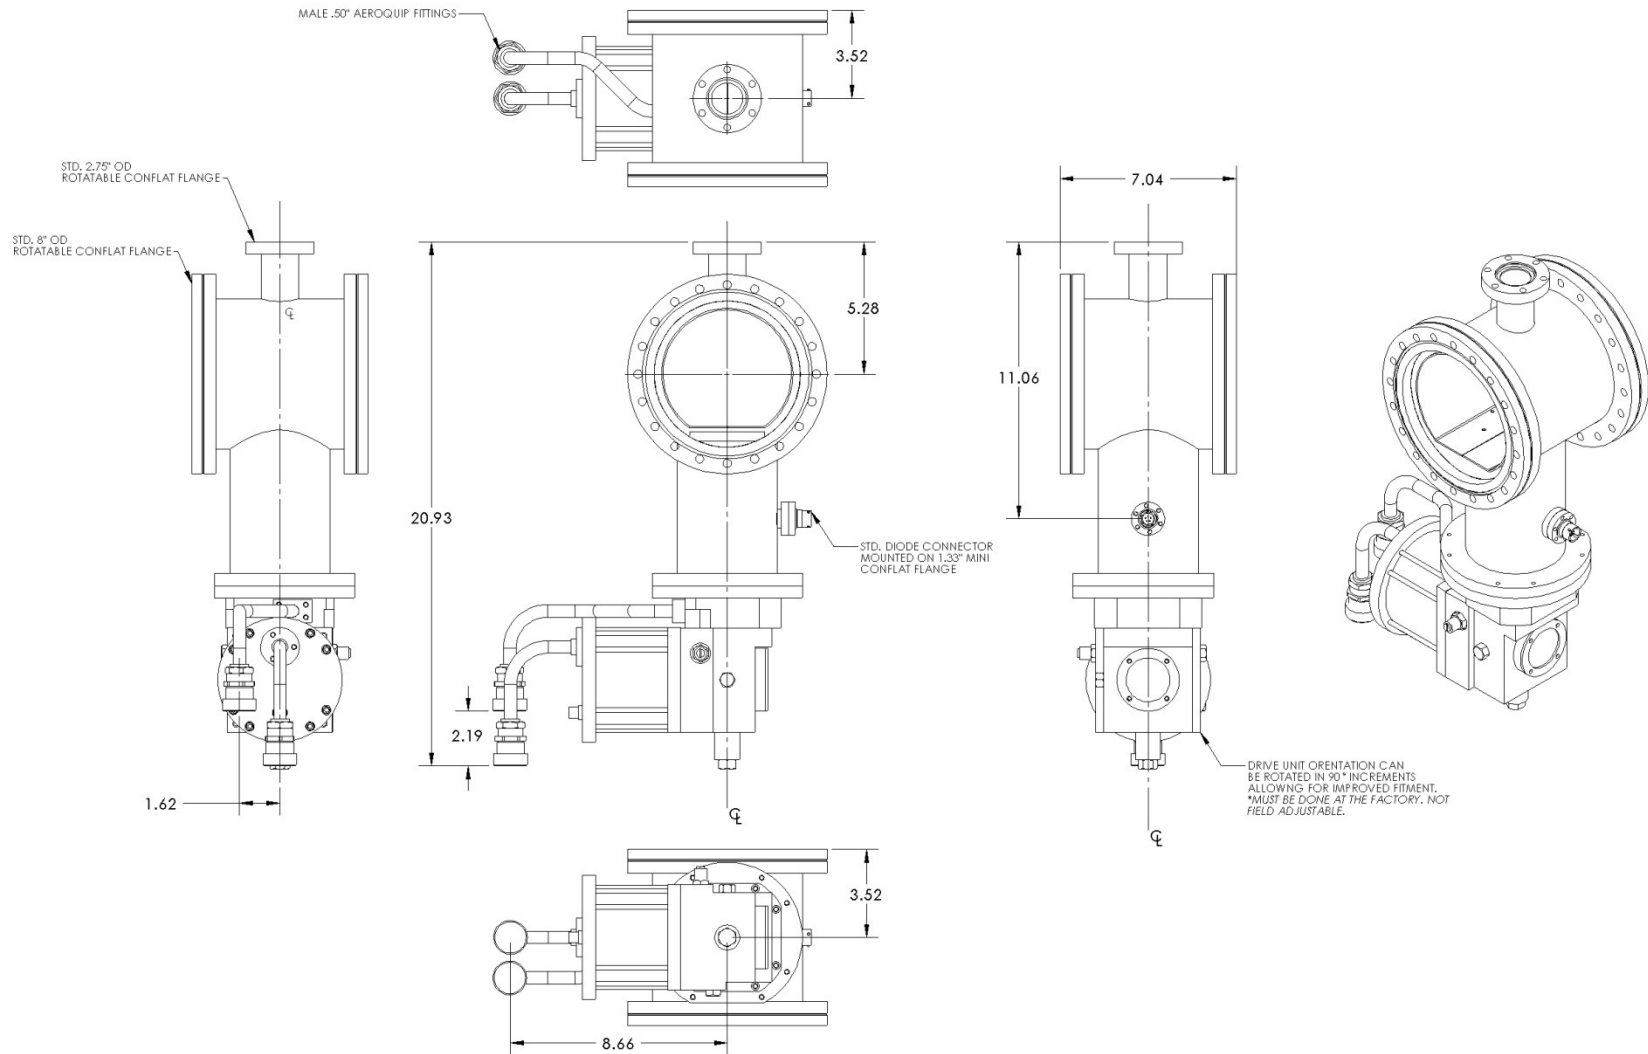

Figure 5 – 8" In-Line Cryogenic Water Pump with Rotatable CF Inlet Flanges
**Figure 4** and **Figure 5**, are typically used in the following applications:
The cryogenic water pump specifications are listed in **Table 4-1**. **Figure 4** thru **Figure 5** show cryogenic water pump dimensions of several configurations.